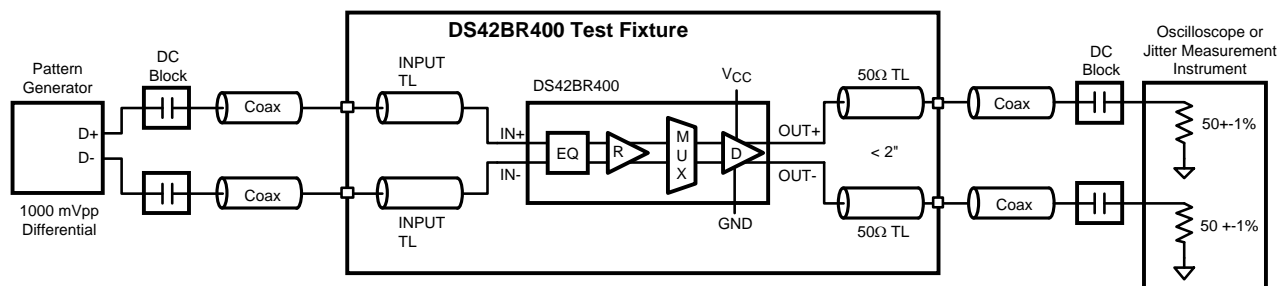

Figure 7. AC Test Circuit
The high speed inputs are self-biased to about 1.3V and are designed for AC coupling allowing the DS42BR400 to be directly inserted into the datapath without any limitation. The ideal AC coupling capacitor value is often based on the lowest frequency component embedded within the serial link. A typical AC coupling capacitor value ranges between 100 and 1000nF, some specifications with scrambled data may require a larger coupling capacitor for optimal performance. To reduce unwanted parasitics around and within the AC coupling capacitor, a body size of 0402 is recommended. Figure 7 shows the AC coupling capacitor placement in an AC test circuit.
- (4) t_{SKO} is the magnitude difference in propagation delays between all data paths on one device. This is channel-to-channel skew. t_{SKPP} is the worst case difference in propagation delay across multiple devices on all channels and operating under identical conditions. For example, for two devices operating under the same conditions, t_{SKPP} is the magnitude difference between the shortest propagation delay measurement on one device to the longest propagation delay measurement on another device.
- (5) Device output random jitter is a measurement of random jitter contributed by the device. It is derived by the equation $\sqrt{[(RJ_{OUT})^2 - (RJ_{IN})^2]}$, where RJ_{OUT} is the total random jitter measured at the output of the device in ps(rms), RJ_{IN} is the random jitter of the pattern generator driving the device. Below 400 Mbps, system jitter and device jitter could not be separated. The 250 Mbps specification includes system random jitter. Please see Figure 7 for the AC test circuit.
- (6) Device output deterministic jitter is a measurement of the deterministic jitter contribution from the device. It is derived by the equation (DJ_{OUT} - DJ_{IN}), where DJ_{OUT} is the total peak-to-peak deterministic jitter measured at the output of the device in ps(p-p). DJ_{IN} is the peak-to-peak deterministic jitter at the input of the test board. Please see Figure 7 for the AC test circuit.
- (7) This parameter is specified by design and/or characterization and is not tested in production.